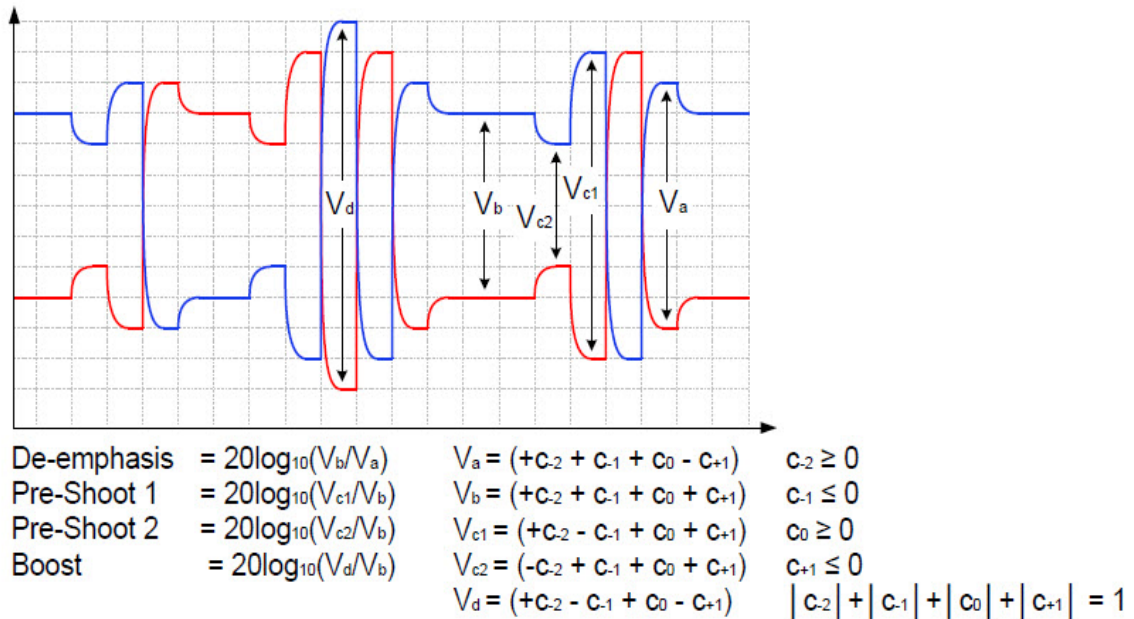

Figure 32 Waveform measurement points for preshoot and de-emphasis
64.0 GT/s PCIe signaling must support the full range of presets given in Table 8-2 (PCI Express Base Specification Revision 6.0). Presets are defined in terms of ratios, relating the pre-cursor and post-cursor equalization voltages. The pre-cursor (Vc) is referred to as pre-shoot, while the post-cursor (Vb) is referred to as de-emphasis. This convention permits the specification to retain the existing 2.5 GT/s and 5.0 GT/s definitions for Tx equalization, where only de-emphasis is defined, and it allows preshoot and de-emphasis to be defined such that each is independent of the other. The tolerances in Table 8-1 (PCI Express Base Specification Revision 6.0) also apply to 2.5 and 5.0 GT/s de-emphasis. The maximum swing, Vd, is also shown to illustrate that, when both c₊₁ and c₋₁ are nonzero, the swing of Va does not reach the maximum as defined by Vd. The high frequency nature of PCIe signaling makes measurement of single UI pulse heights impractical. Consequently all amplitude measurements are made with low frequency waveforms as shown in Figure 32.
- 13 Computes their equalization voltages by using Matlab, and then calculates equalization ratios by using the formulae stated in Figure 32 (Figure 8-6 of the spec).